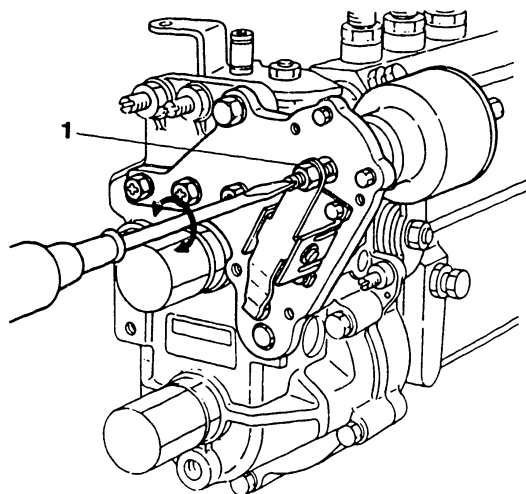

Fig. 177 Adjustment of control rack position
- 1) Supply negative pressure  $P_1$  mmHg and adjust using the adjusting screw so that the control rack position is  $R_1$  mm. Check that fuel injection quantity  $Q_1$  cc/1000 st is obtained at this point. (Figs. 177 and 178)